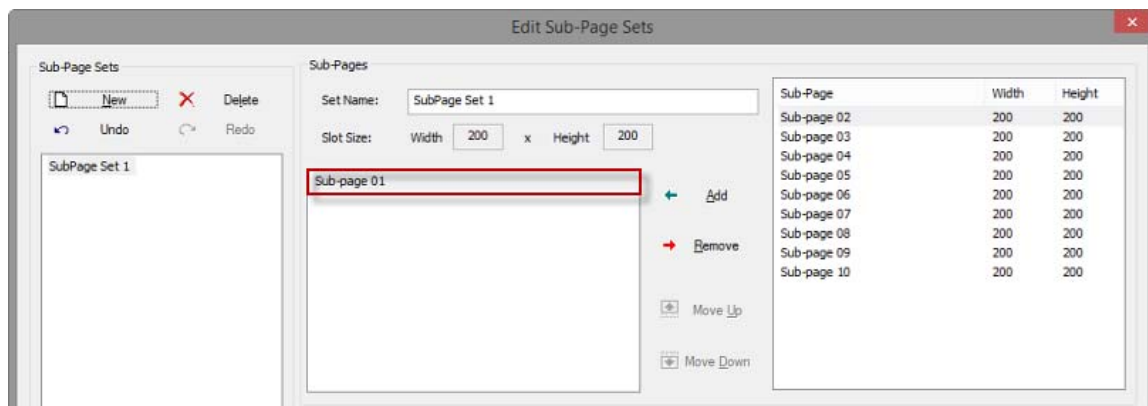

FIG. 97 Edit Sub Page Sets dialog - Adding a Sub-Page to a Sub-Pages list
- b. Click **Add** (or double-click the Sub-Page) to add it to the selected Sub-Page Set list, in the center window (FIG. 97):